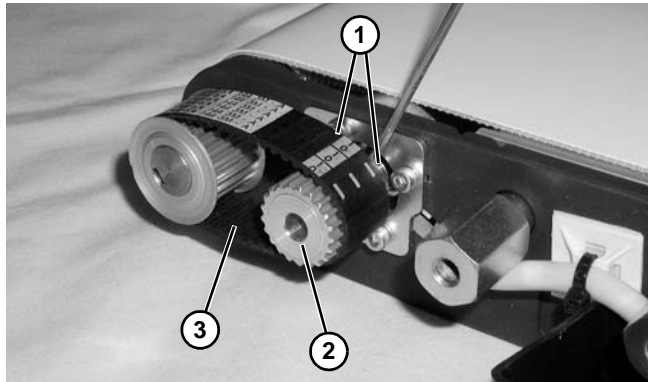

Figure 73
- Loosen two set screws (**Figure 73, item 1**) on drive pulley (**Figure 73, item 2**). Slide drive pulley outward off of gearmotor shaft and remove timing belt (**Figure 73, item 3**).